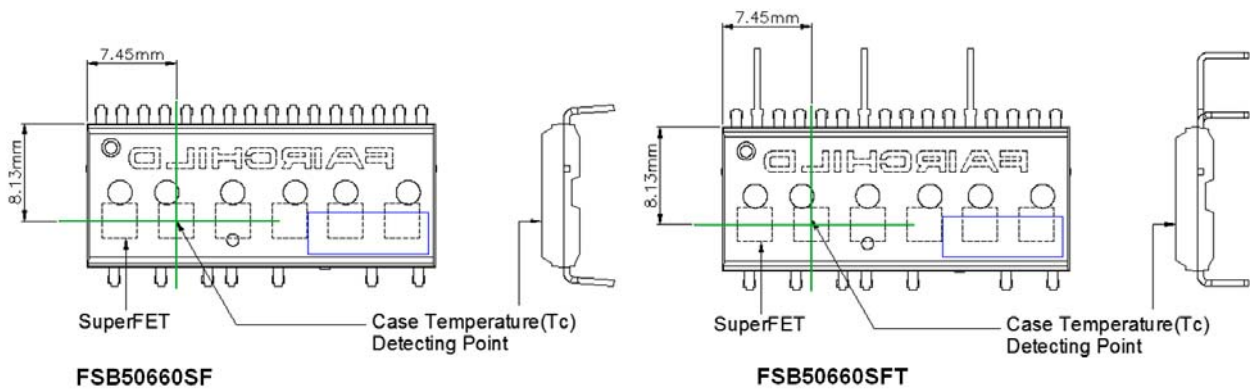

Figure 4. Case Temperature Measurement
- For the measurement point of case temperature  $T_C$ , please refer to Figure 4.